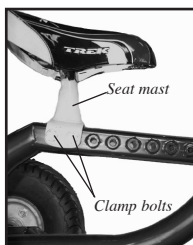

Figure 20- Tricycle seat mast
1. Loosen and remove the clamp bolts (Figure 20).